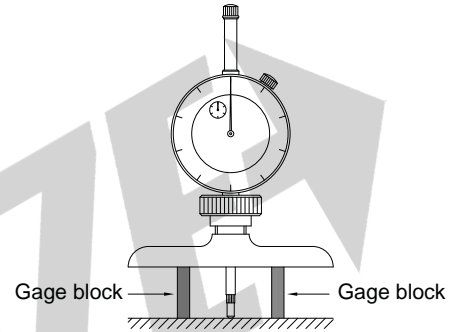

Fig.2
- Do calibration with calibrate tool or two same size gage blocks(Fig.2), make the long pointer points the zero through adjusting the indicator's vertical position or rotate the bezel, measure it several times to make sure that it is properly zero set.